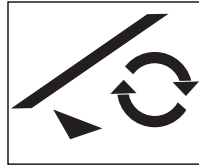

Figure 5 - Icon showing Prime position
- ▶ turn the unit to the Prime position (see Figure 5) ...OR ...